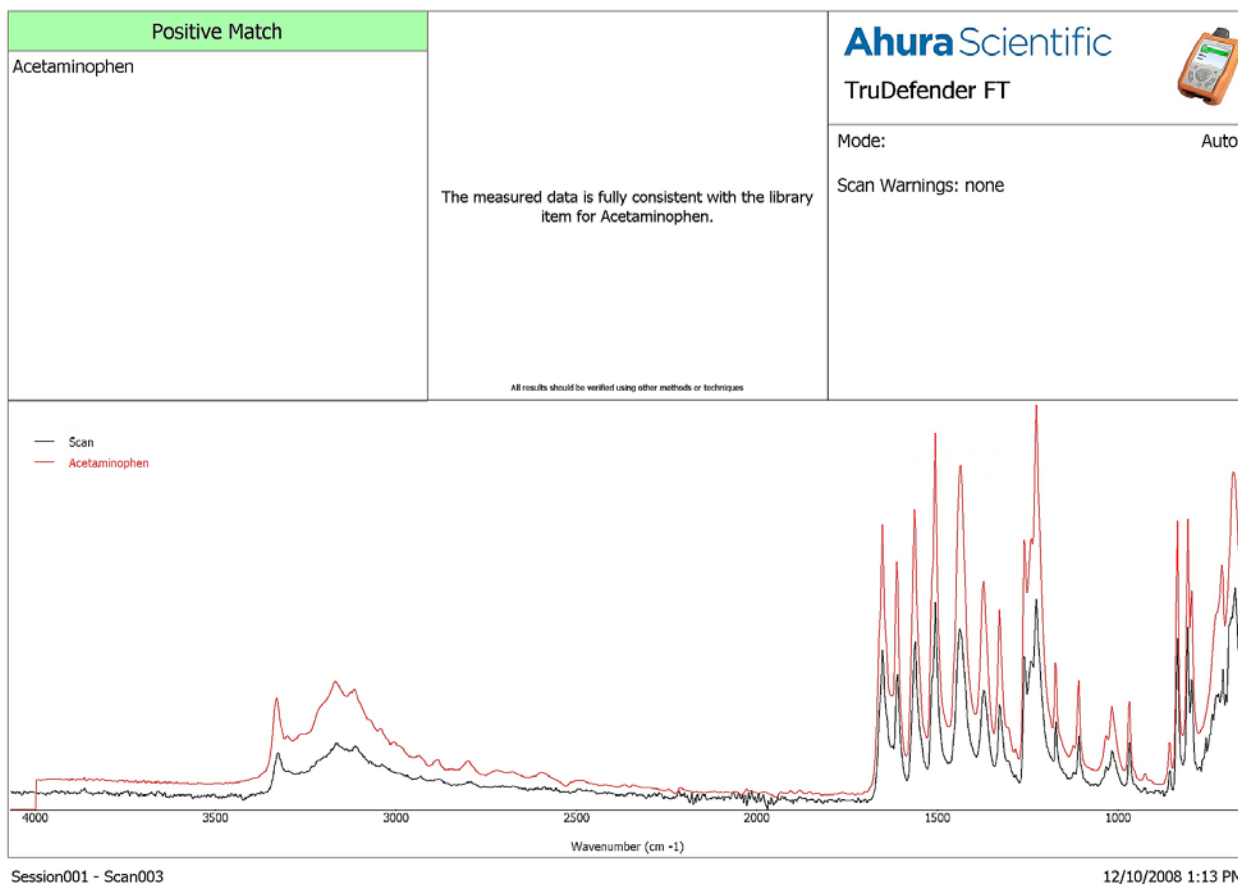

Figure 6. A Typical Report File
- Report file (.jpg) – a report similar to Figure 6